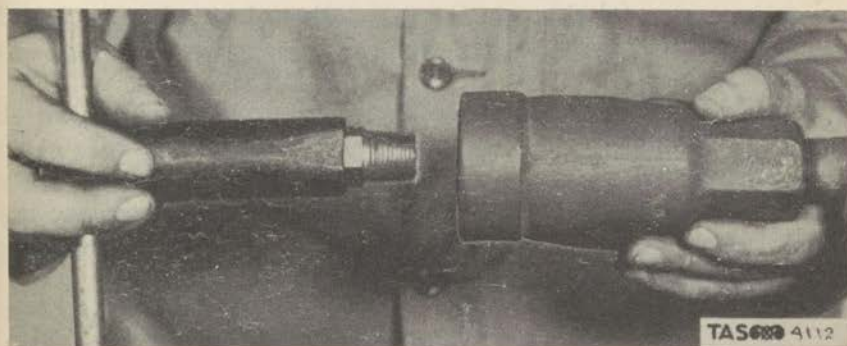

Figure 122. Removal of Nozzle.
(5) Remove and replace the nozzle. (Fig. 122)